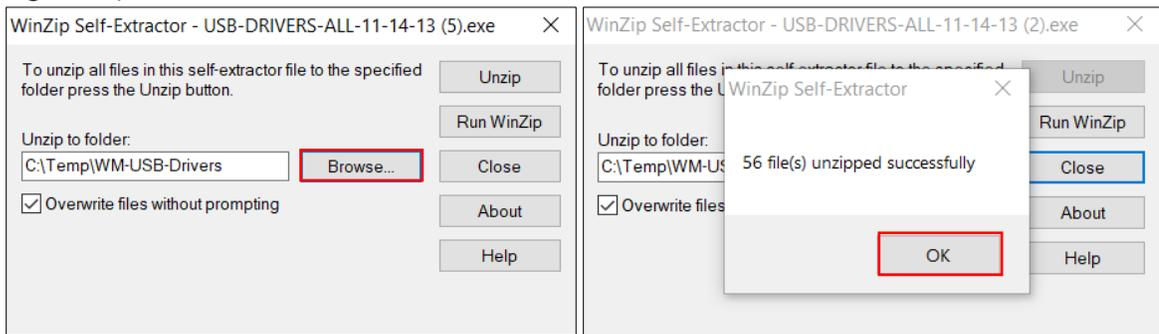

Figure 10: Unzipping USB Link 2 Driver Software
4. Unzip the file, use “Browse” to unzip the files in a place where you will be able to find them in the next step (see figure 10).